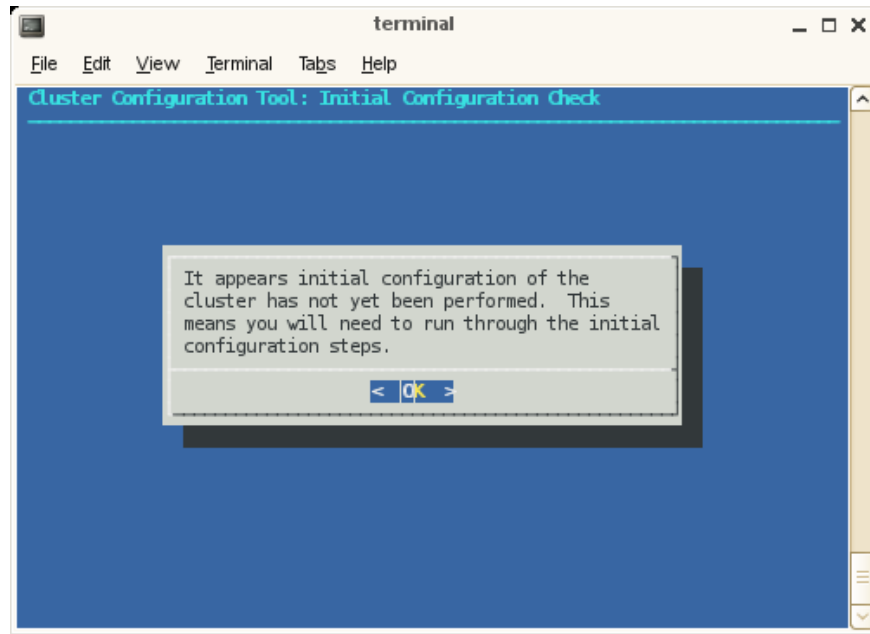

Figure 2-9 Cluster Configuration Tool: Initial Configuration Check Screen
21. The **Cluster Configuration Tool: Initial Configuration Check** screen appears, as shown in Figure 2-9 on page 42. This tool provides instructions on the steps you need to take to configure your cluster. Click **OK** to continue.